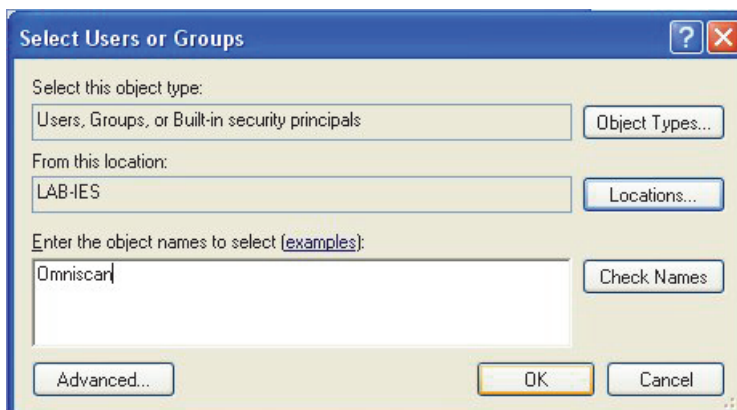

Figure 14-11 The **Select Users or Groups** dialog box (Windows XP)
The **Select Users or Groups** dialog box appears (see Figure 14-11 on page 293).
10. In the **Select Users or Groups** dialog box, in the **Enter the object names to select** text box, type **Omniscan** (see Figure 14-11 on page 293), and then click **OK**.